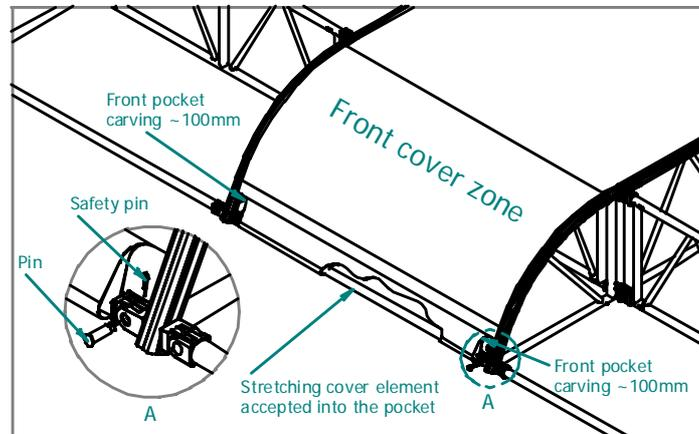

Fig. 11
5. Insert the stretcher element into the front pocket compartment of the fabric sheet (fig. 11) and connect it with two pins and two safety pins to the forked connectors provided for on the front FL76111RH elements.
7. If the fabric sheet is being used for the first time, it will be necessary to make notches on the front and back pockets, in order to allow it to be fixed to the structure, and to allow for positioning of the ratcheted belts, as illustrated in figures 11 and 12.